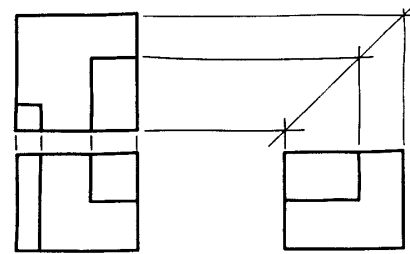

FIGURE 2.46 ■ Step 2, block out shapes.
- Step 2. Complete the shapes by cutting out the rectangles, as shown in Figure 2.46.